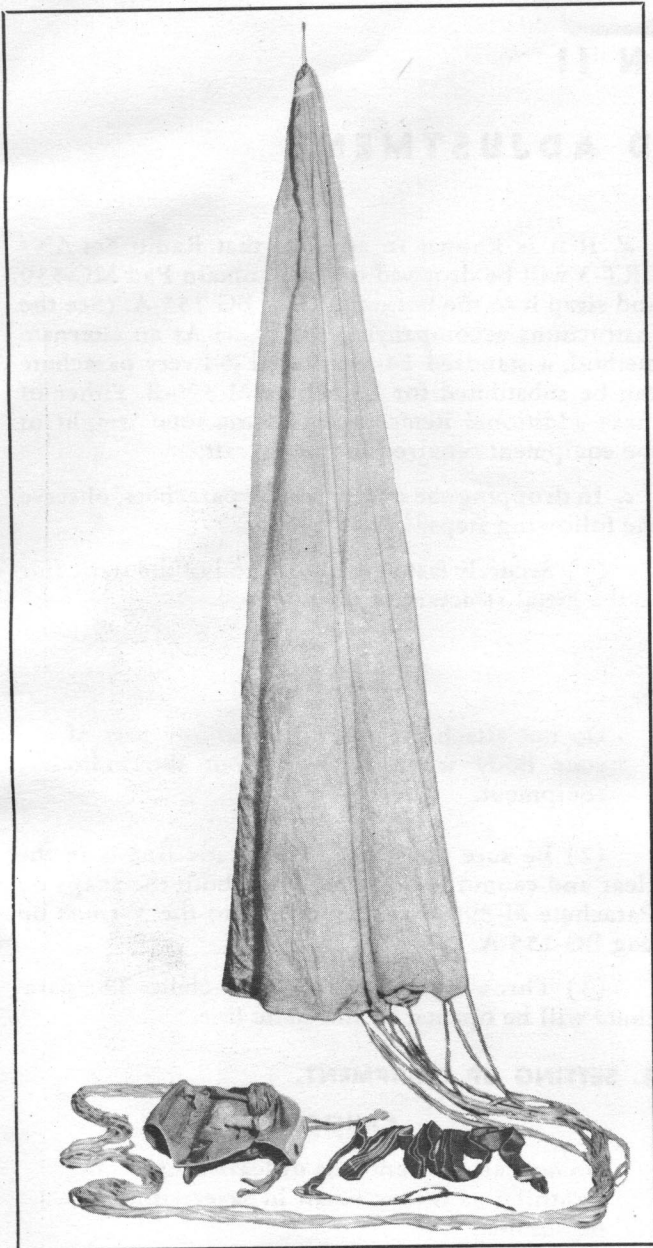

Figure 1-9. Parachute M-390-B
b. PARACHUTE M-390-B.—This parachute (see fig. 1-9) employs a 12-foot nylon canopy. It has two snap hooks which attach to mating V-rings on Bag BG-155-A. A static line is folded at one side of the parachute. One end of the static line has a snap hook by which it may be attached to the airplane; the other end is fastened to the rip cord.